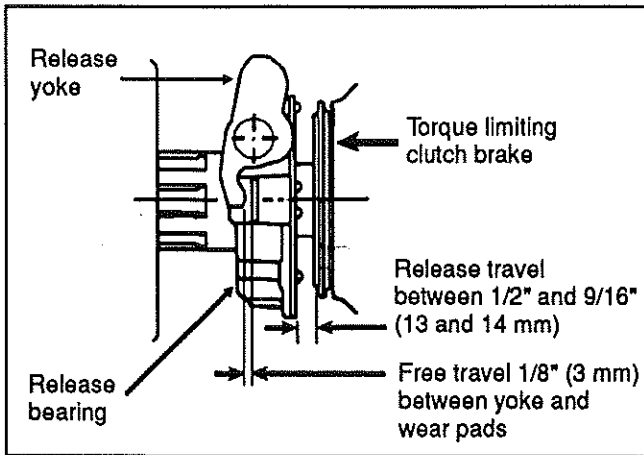

Fig. 23
2. Measure clearance between release bearing housing and clutch brake (refer to fig. 23). The clearance should range between $1/2"$ and $9/16"$ (13 and 14 mm).
1. Check free travel (or clearance between the release yoke and release bearing wear pads as shown in fig. 23). The clearance should be 1/8" (3 mm).